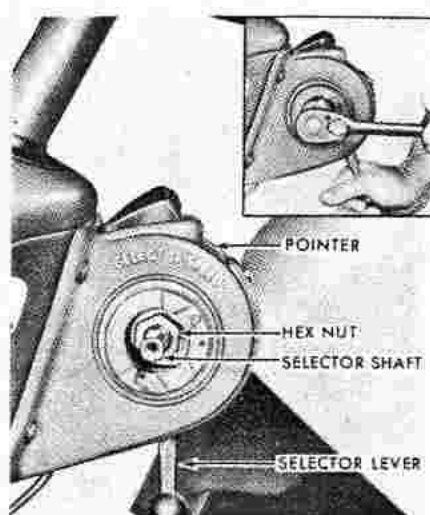

Fig. 235-View showing left end cover removed from gear selector assembly. Inset shows hex nut being loosened to adjust dial pointer.
Remove the selector shaft end cover from left side of selector unit to expose the shaft and hex nut as shown in Fig. 235. Note: If control lever is mounted on left end of shaft, remove lever and reinstall it on right end of shaft while making adjustment; refer to paragraph 238. Move the selector lever to Neutral (N) position and hold lever firmly in detent notch while loosening hex nut with a deep well socket. The dial can now be moved in either direction to align Neutral (N) identification on dial with pointer. Hold lever to detent and tighten hex nut to torque of 25-35 Ft.-Lbs. Recheck dial alignment; if correct